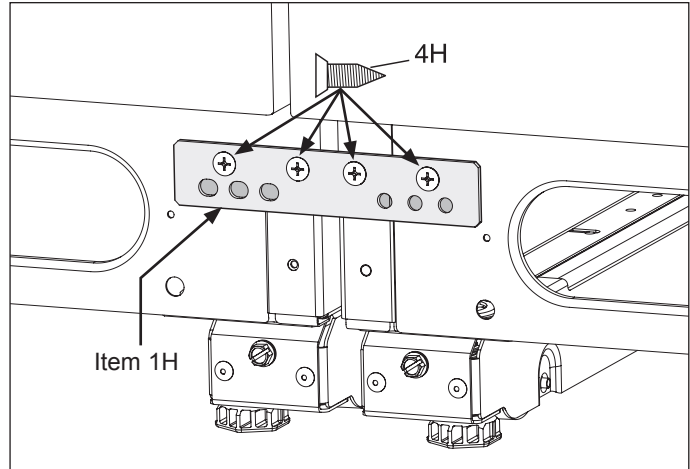

Figure 8
- d. Tie units together with common mounting bracket at the bottom front using #3 Phillips driver. (See Figure 8).